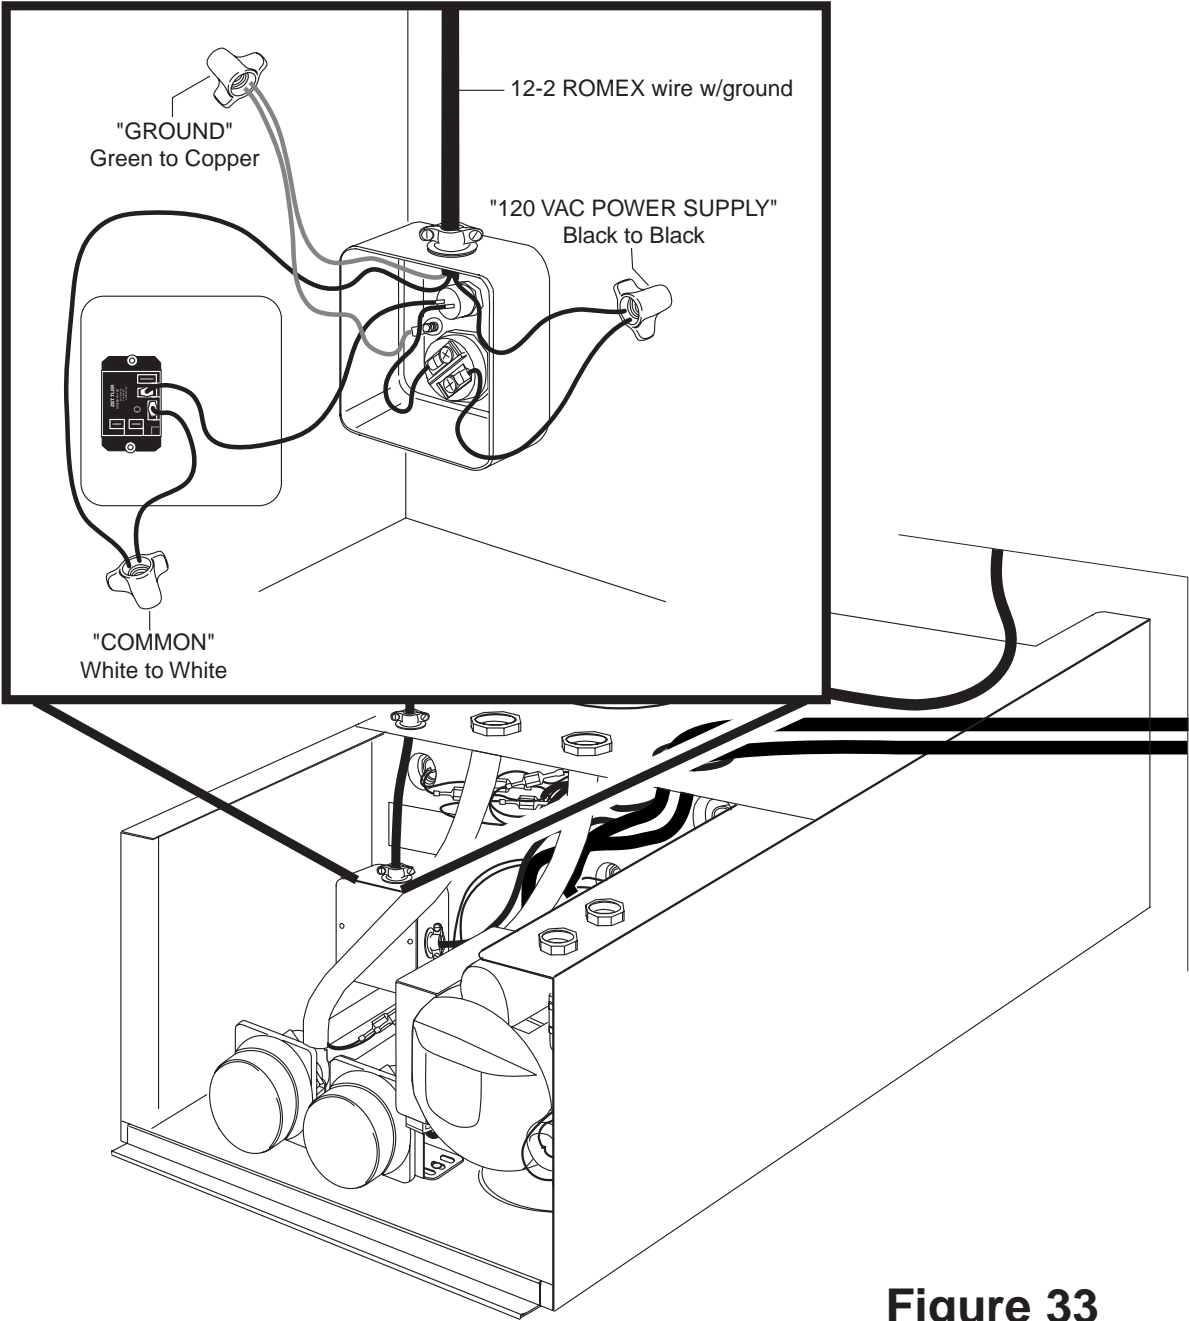

Figure 33
2. Insert the wire through the Hydro-Hot's ROMEX Clamp and connect the 120-VAC Power supply to the Hydro-Hot's Electric Heating Element wires as illustrated in Figure 33.